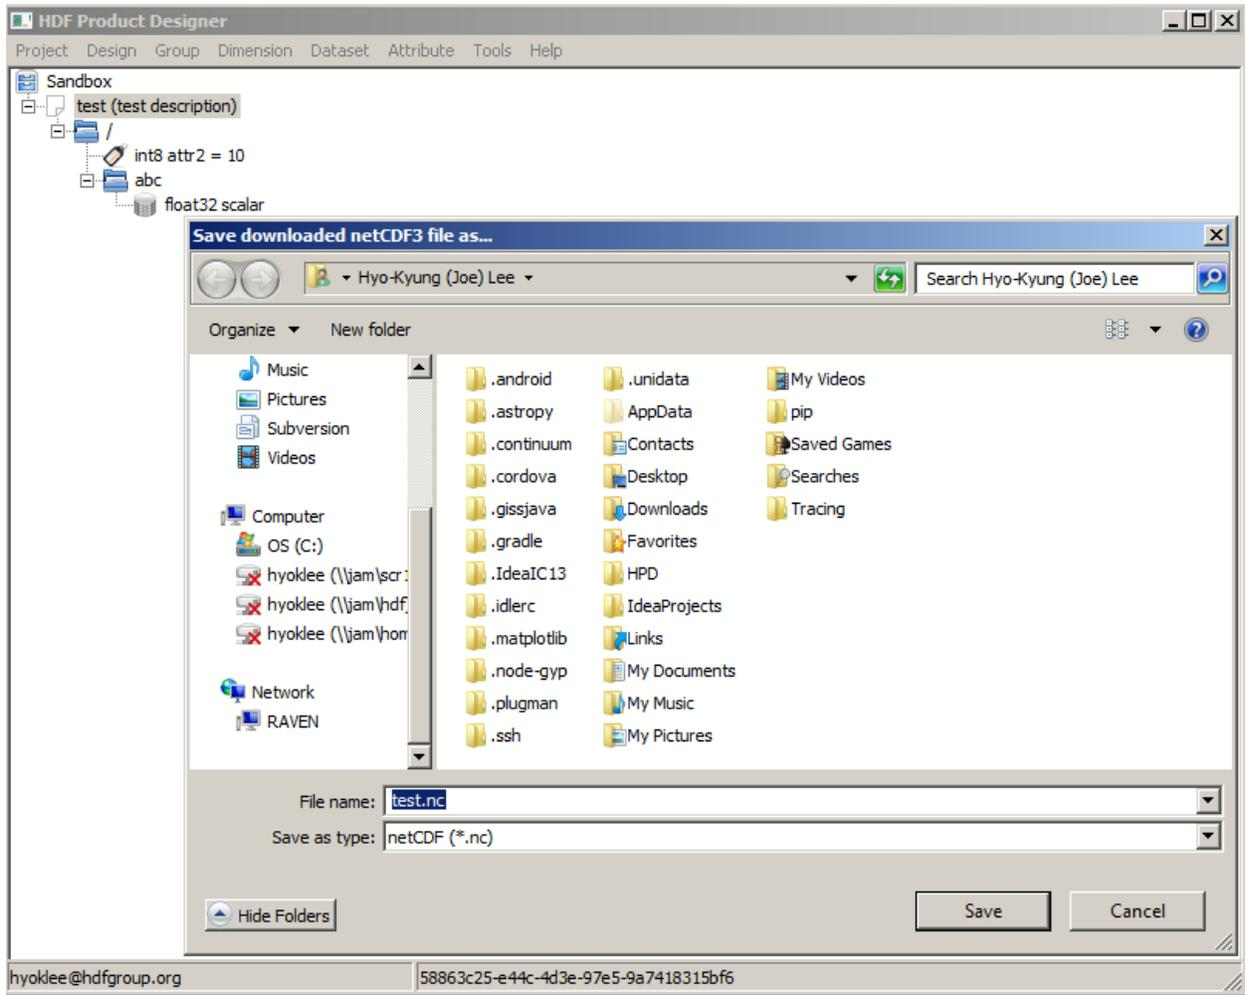

Fig. 5.25: HPD Desktop dialog box for saving design as netCDF-3 file
- If no errors, HPD Desktop will prompt for a file name and save the netCDF-3 content (Fig. 5.25).